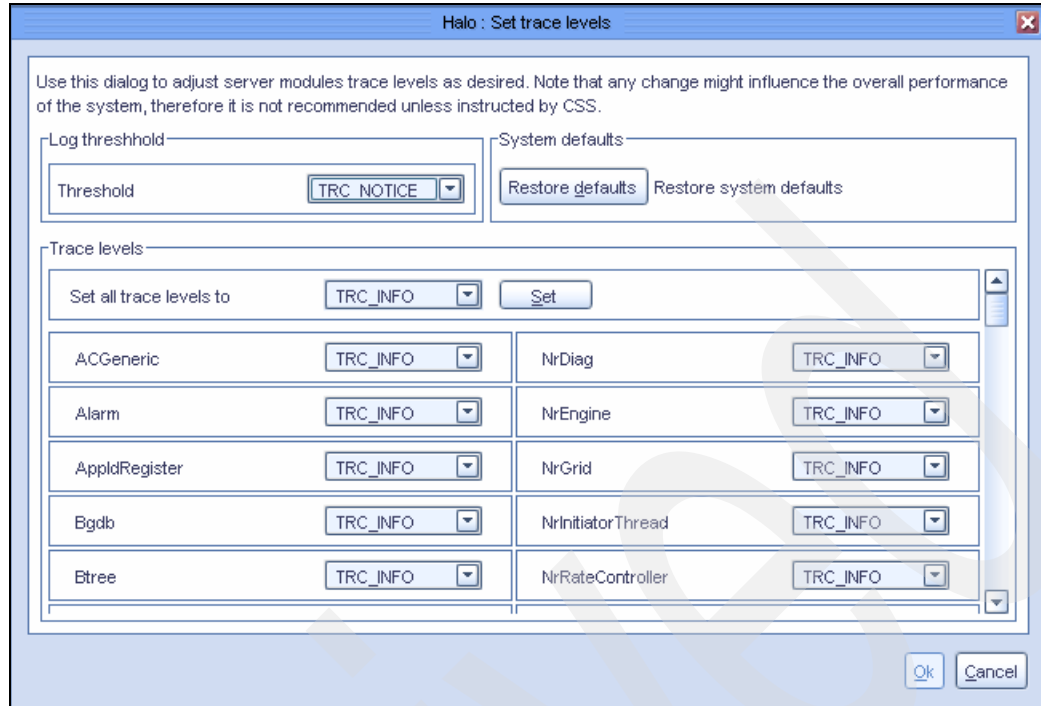

Figure 8-37 ProtecTIER Manager “Trace levels”
1. Click **Node** and then select the node that you want to change the trace settings for (see Figure 8-37 on page 224).